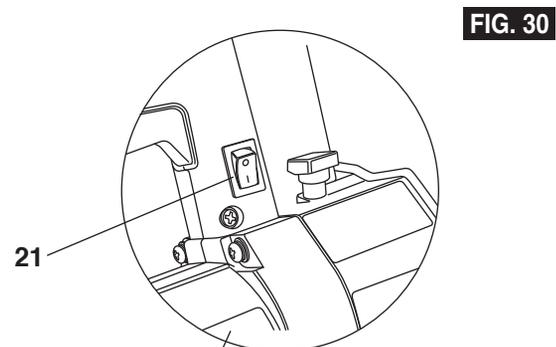

FIG. 30
The tool power cord must be plugged in, but you do not have to activate the trigger to use the laser. The laser alignment system can be turned on or off by using the switch **21** shown (Fig. 30).
2. Pull out the head assembly lock pin **3** (Figure 30).